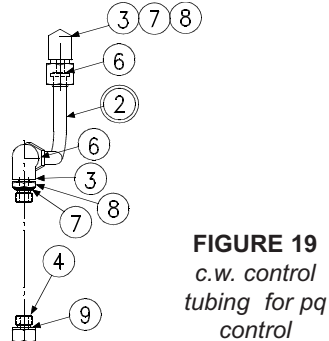

FIGURE 19
PARTS LIST FOR FIGURE 19
7. Install proportional valve with LVDT, (9). Torque screws (22) to 66 in.-lb, 7,5 Nm.
8. For 140 series, install adapter, (27).
9. Install tubing assembly (Figure 19, 20).